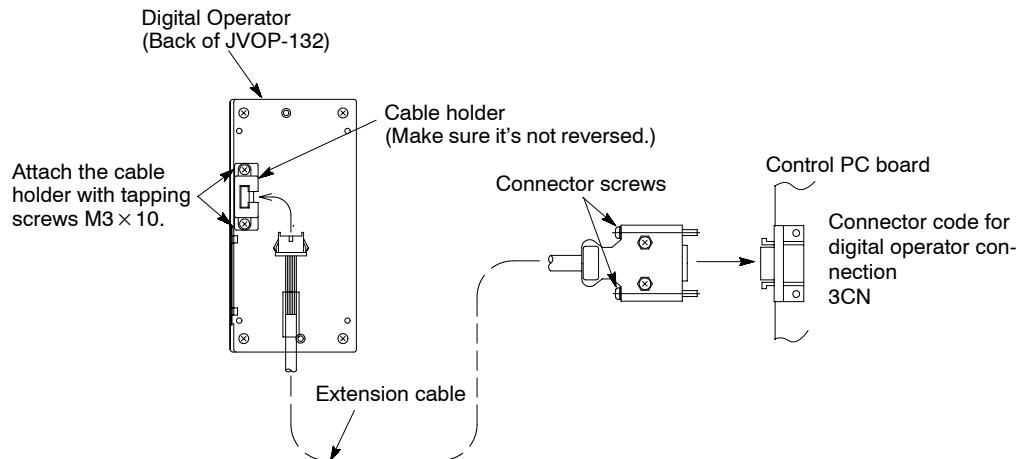

Fig 2.12 Extension Cable Installation
- Connect the extension cable on both Inverter and Digital Operator. (See Fig. 2.12.)